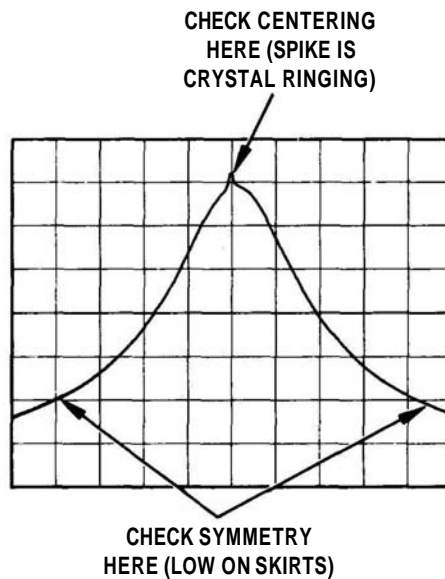

FIGURE 5-7. ADJUSTING CRYSTAL SYMMETRY AND CRYSTAL CENTERING
13. Adjust front-panel **TUNING** control to center bandpass spike (Figure 5-7) on the CRT display.
14. Adjust **A13C38 SYM** and **A13C54 CTR** for a centered and symmetrical bandpass as shown in Figure 5-7. Adjust **A13C54 CTR** for minimum signal amplitude.